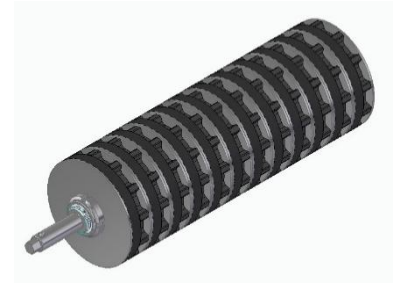

Figure 15
2. Finely serrated seed wheel 12x16 ccm= 192 ccm (Figure 15):